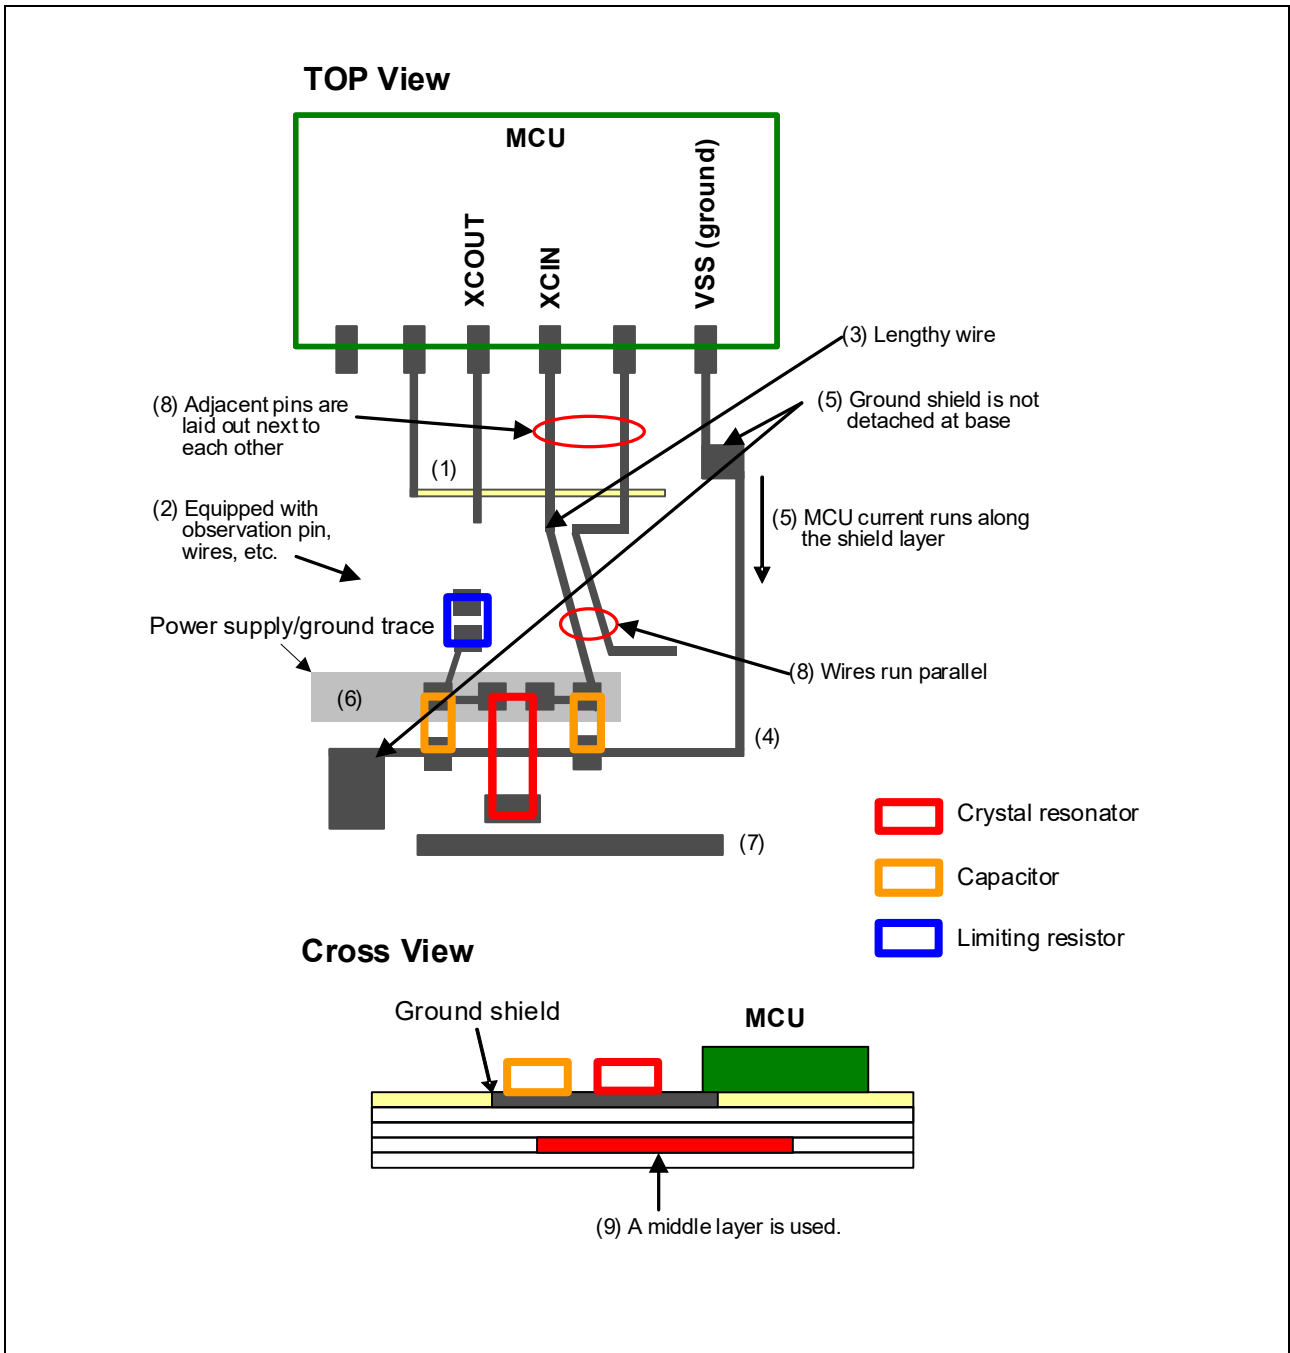

Figure 3.13 Trace Example Showing High Risk of incorrect Operation Due to Noise
Do not lay out traces described in (1) through (9). Laying out the traces below may cause the low CL resonator to not oscillate correctly. Figure 3.13 shows a trace example.
- (1) XCIN and XCOOUT wires cross other signal wires (risk of incorrect operation).
- (2) Observation pins are attached to XCIN and XCOOUT (risk of oscillation stopping).
- (3) XCIN and XCOOUT wires are long (risk of erroneous operation or decreased accuracy).
- (4) The ground shield does not cover the entire area, and where there is a ground shield, the wiring is long and narrow (easily affected by noise, and there is a risk that accuracy will decrease from the ground potential difference generated by the MCU and external capacitor).
- (5) Ground shield is not detached near VSS pin (risk of incorrect operation from MCU current flowing to the ground shield).
- (6) Power supply or ground trace are under the XCIN and XCOOUT wiring (risk of losing the clock or oscillation stopping).
- (7) A wire with a large-current is routed nearby (risk of incorrect operation).
- (8) Parallel wiring for adjacent pins is close and long (risk of losing the clock or oscillation stopping).
- (9) The middle layers are used (risk of oscillation characteristics decreasing or signals operating incorrectly).